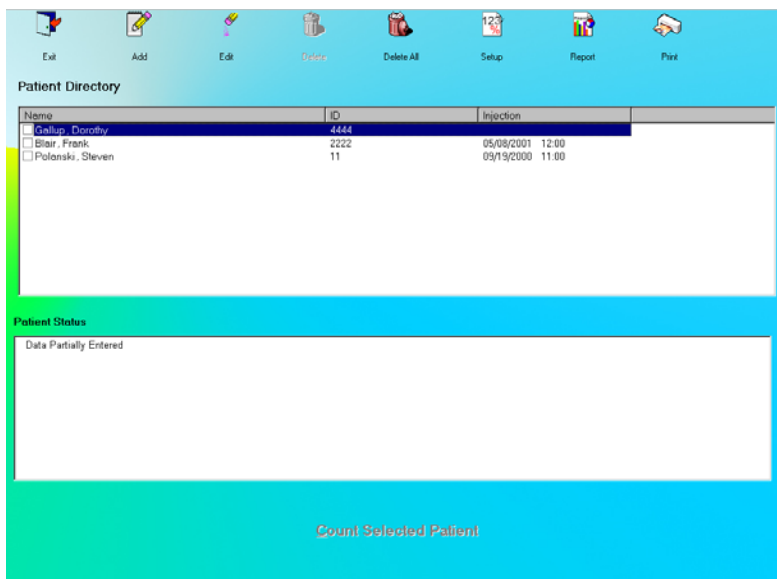
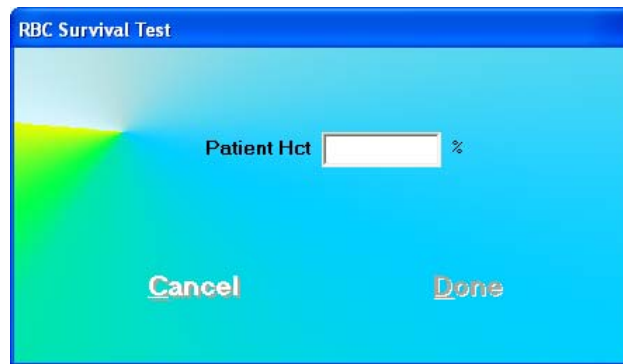

Figure 10-64 RBC Survival Test Main Screen
Figure 10-75
Click the **Red Blood Cell Survival** button or press *Alt+R* on Figure 10-1 Lab Tests Main Screen. Figure 10-64 RBC Survival Test Main Screen will appear. The **Patient Directory** box will be empty if there are currently no existing patients in the database. Each added patient will appear in this box with their name and ID number along with the time and date of the injection given to the patient. The **Patient Status** box will show the data status of the patient if test has not yet been performed, or the latest test results.
3. Click the **Done** button to save changes or click the **Cancel** button to discard the changes and return to Figure 10-64 RBC Survival Test Main Screen.
1. Click the **Add** icon on Figure 10-64 RBC Survival Test Main Screen. The screen appears as shown in Figure 10-66, with information to be entered in three sections.
6. To add more patients, click the **Add** icon on Figure 10-64 RBC Survival Test Main Screen.
- Click the **Done** button to save changes or click the **Cancel** button to discard the changes and return to Figure 10-64 RBC Survival Test Main Screen.
1. To select a patient for the test, click on that record in the **Patient Directory** box on Figure 10-64 RBC Survival Test Main Screen. The **Patient Status** box will show the current status of the patient. If this box reads, "All Data has been entered", the  button at the bottom of the screen is accessible and the test can be started. If data is partially entered, the  button is inaccessible.
4. First, the screen prompts you to input the hematocrit value in % for the patient, as shown in Figure 10-75. Input the value and click the **Done** button or press *Alt+D*.
To begin counting, verify that there are no radioactive sources nearby and click the **OK** button. To abort the measurement, click the **Cancel** button and the screen will return to that shown in Figure 10-75. To exit to Figure 10-64 RBC Survival Test Main Screen, click the **Exit** button or press *Alt+E*. To begin the test again, click the **Start Procedure** button or press *Alt+S*.
7. To return to Figure 10-64 RBC Survival Test Main Screen click the  button or press *ALT+E* after the cycle of measurements is completed. The **Patient Status** box will show the number of measurements made till then.